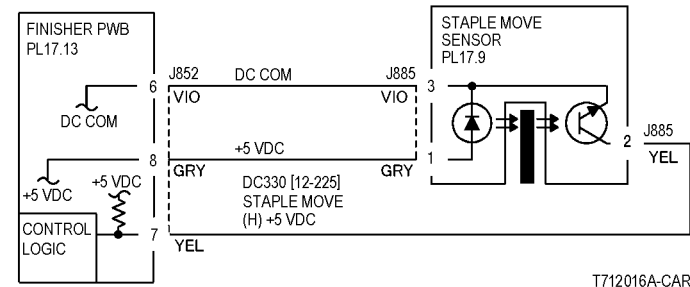

Figure 2 Staple Move Sensor CD
- Ensure that the connectors shown in the circuit diagrams (Figure 2, Figure 3) are securely connected and that the wires are not damaged.